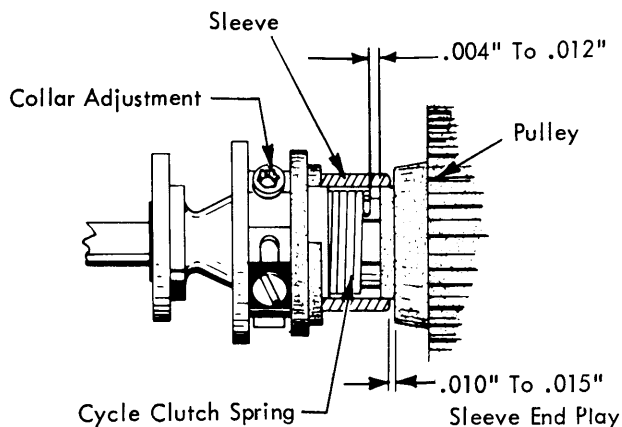

FIGURE 29. Lateral Position of the Cycle Clutch Spring and Collar
- a. Lateral position of the spring - Loosen the collar and position the spring left or right on its hubs so that the right hand end of the spring will clear the face of the cycle clutch pulley by .004" to .012" (Fig. 29).